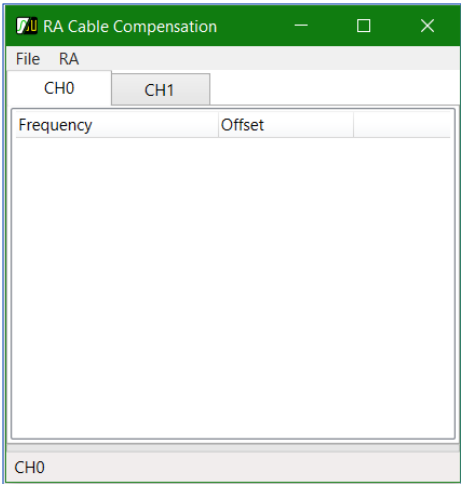
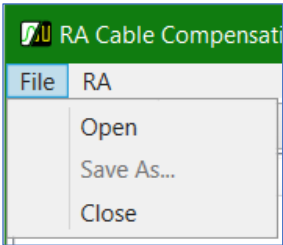

Figure 123: RA Cable Compensation
Figure 124: RA Cable Compensation, File Drop Down Menu
1. When the RA Cable Compensation screen opens, it is empty, as shown in Figure 123. To load a cable compensation file, use the File drop down menu, shown in Figure 124, to select Open.